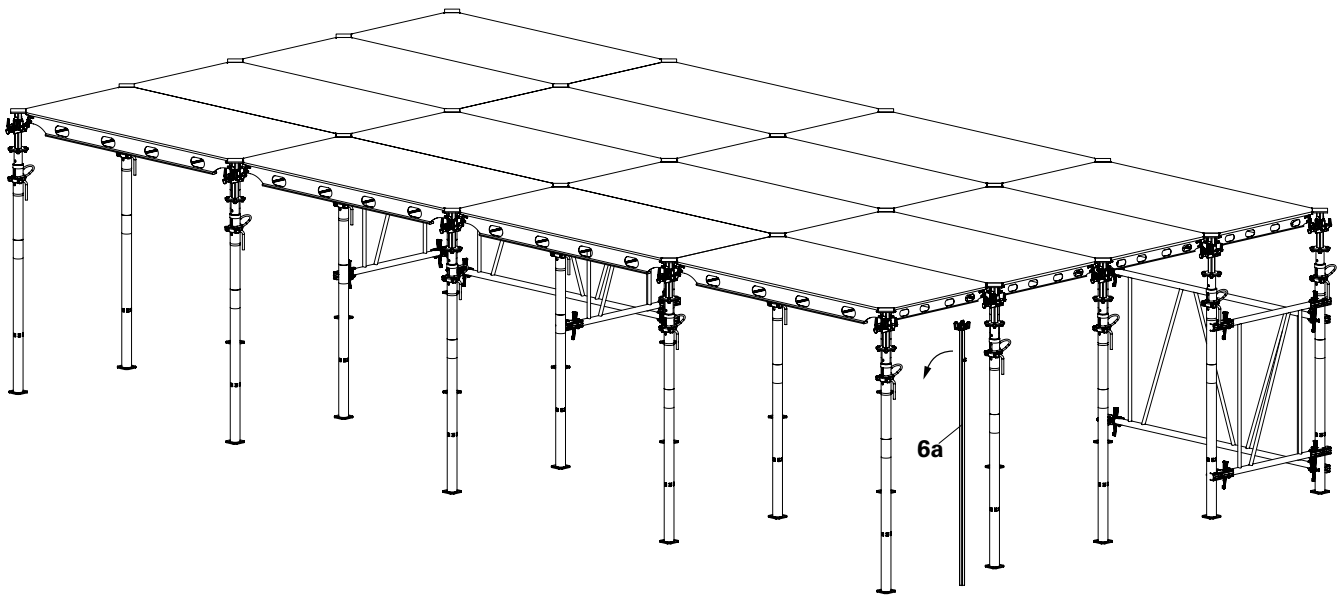

Fig. A4.14
9. Once the last prop is set into position, remove the second shuttering aid (**6a**). (Fig. A4.14)